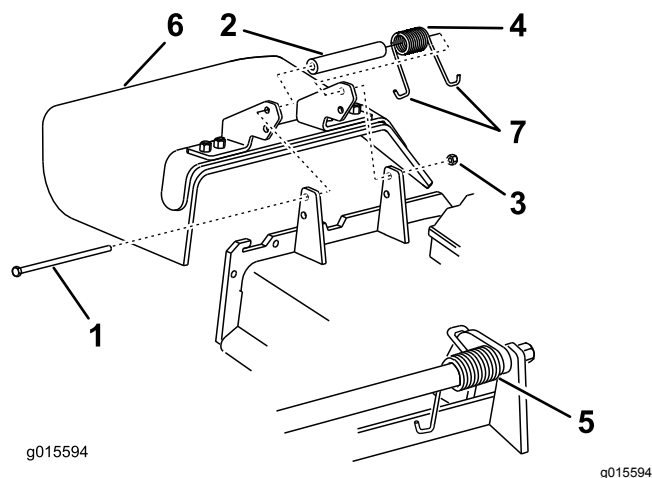

Figure 98
1. Remove the locknut, bolt, spring, and spacer holding the deflector to the pivot brackets (Figure 98).
Note: Make sure that one J-end of spring is installed behind deck edge before installing the bolt as shown in Figure 98.
5. Place one J-hook end of spring around grass deflector (Figure 98).